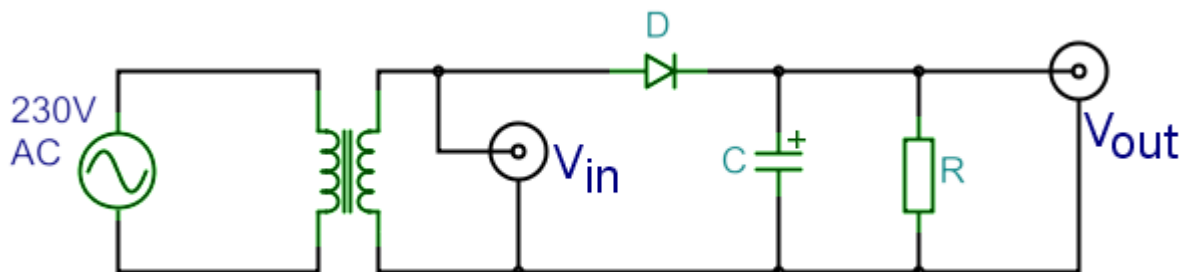

Figure 1.4 Half-wave rectifier circuit.
**1.3.2** Build the circuit from *figure 1.4*. The  $R$  load resistor's value is **3.6k $\Omega$** . Connect the signal  $V_{in}$  to channel 1 of the oscilloscope, this is the input of the circuit. Connect  $V_{out}$  to channel 2 of the oscilloscope, this is the output. (When using digital oscilloscope, take care to set up Edge mode for the trigger!) First don't connect the  $C$  capacitor in the circuit.